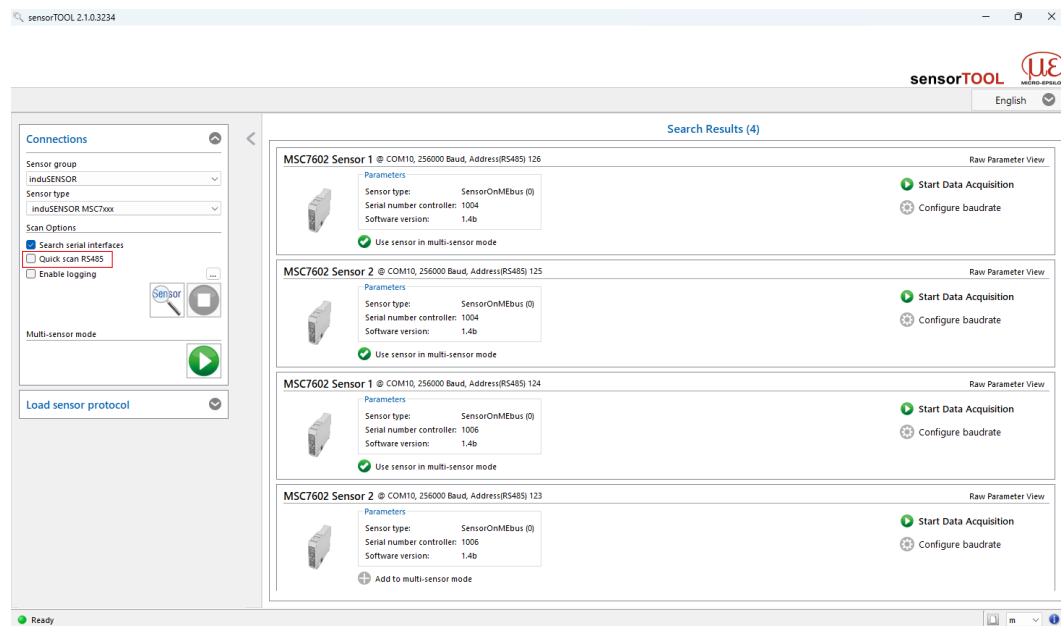

Fig. 87 First interactive site after calling the `sensorTOOL`
Please note that the checkbox `Quick scan RS485` must be deactivated, see Fig. 87, to find multiple channels.
- ➡ If not already done, configure each individual channel, see A 3.3 and then return to the first interactive page after calling `sensorTOOL` (Search Results), see Fig. 87.